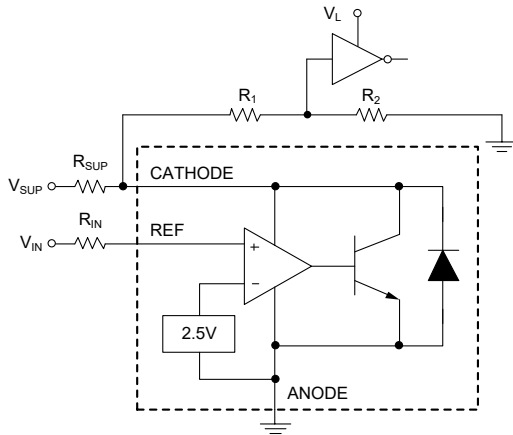
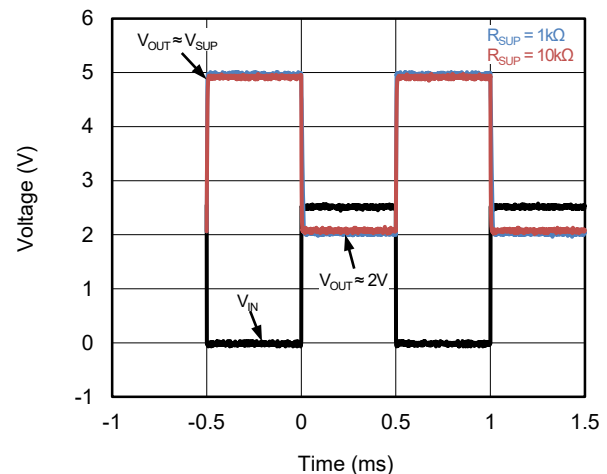

Figure 3. Comparator Application Schematic
Figure 4. Output Response with Various Cathode Current
As shown in Figure 3, the LM431HS is always used as a comparator with 2.5V integrated reference in application, for this design, the parameters are listed in Table 1. The REF pin voltage is compared with reference inside and is amplified. Also, the LM431HS responds fast if the operation current  $I_{KA}$  is large enough. In Figure 4, it is clear to see that the output response with  $R_{SUP} = 1k\Omega$  is much faster than  $R_{SUP} = 10k\Omega$ . The maximum cathode current of  $I_{MIN}$  is 0.75mA, any cathode current below this value will cause a low response (low open-loop gain) for the application of comparator.
The input resistance should be less than 10k $\Omega$  in order to minimize the voltage drop between  $V_{IN}$  and  $V_{REF}$ . The readability of the logic output of the comparator should be guaranteed so that it can be received by the next stage. In Figure 4, the  $V_{IL}$  of the comparator logic is 2V, which is sufficient for a 5V supply voltage. However, for the logic stage which is powered by 1.8V or 3.3V, the  $V_{IL}$  is hard to be figured out. To accommodate this, a voltage divider should be taken into account. Due to the Open-Collector (OC) output stage, the  $V_{IH}$  is equal to the voltage of its power supply. When the voltage divider is used to attenuate  $V_{IH}$ , please make sure that the sum of  $R_1$  and  $R_2$  is greater than the resistance  $R_{SUP}$  to the power supply.